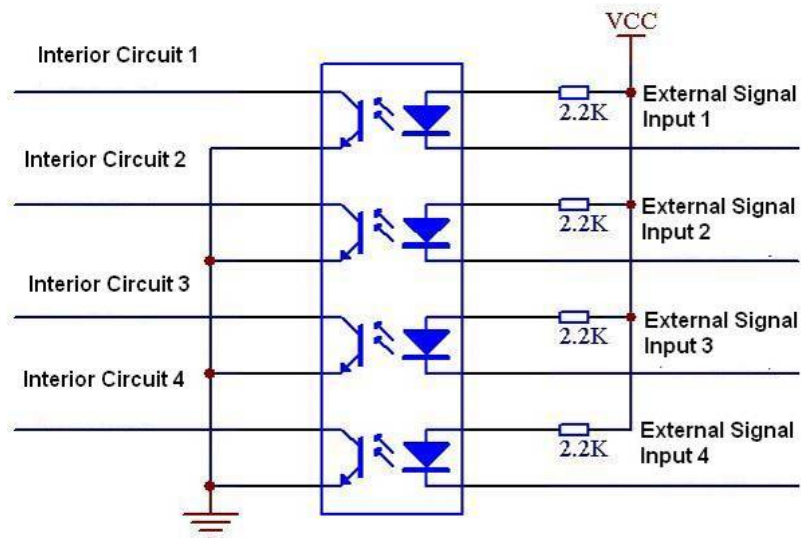

Figure 3-7
- Please refer to Figure 3-7 for alarm input module information.